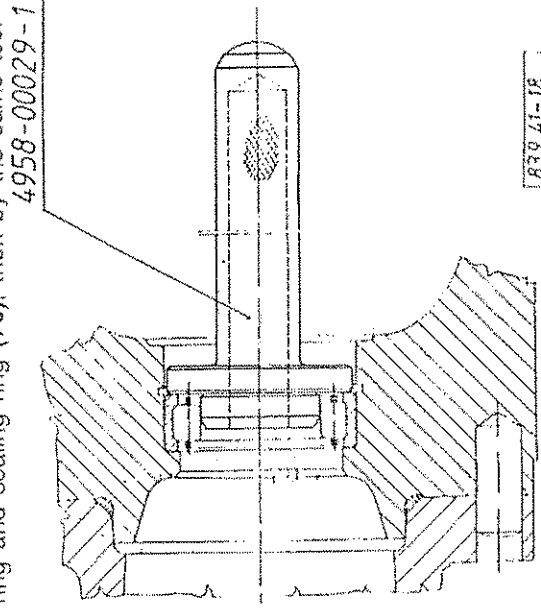

Fig. 3.: DRIVING IN THE CYLINDRIC ROLLER BEARINGS
Place the spacer sleeve (6) in the spindle (35). By means of the tools shown drive in the cylindrical roller bearing (Fig. 3.).